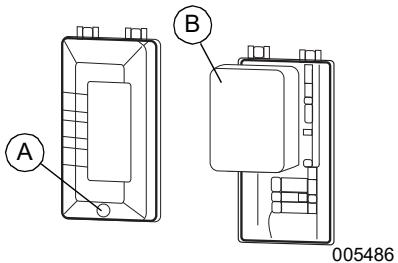

Figure 4-4. Air Filter Assembly
1. See **Figure 4-4**. Unscrew bolt (A) and remove air filter cover.
2. Wash filter (B) in soapy water. Squeeze dry in clean cloth (DO NOT TWIST).